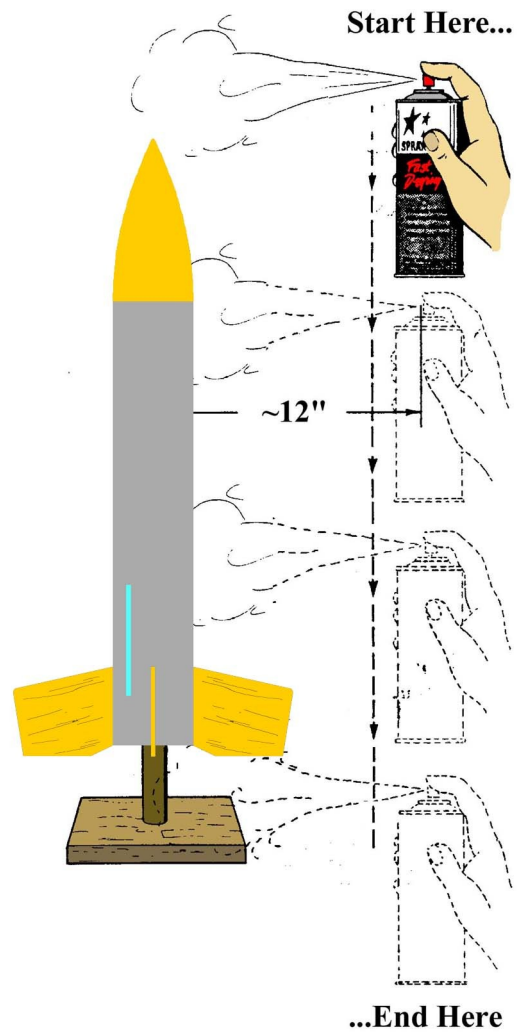

Figure 8
- **Step 14** The illustration in Figure 8 shows the correct way to spray your model, regardless of the equipment used. Always spray the model from top- to-bottom, never from side-to-side, or bottom-to-top. Use the empty CD-R spindle, or a length of 3/4" hardwood dowel, with an expanded 24mm casing pressed onto one end as a cheap holding spike. Maintain a distance of about 12" between the tip of the spray and the model. This step applies to primers, paints, and final gloss coats.